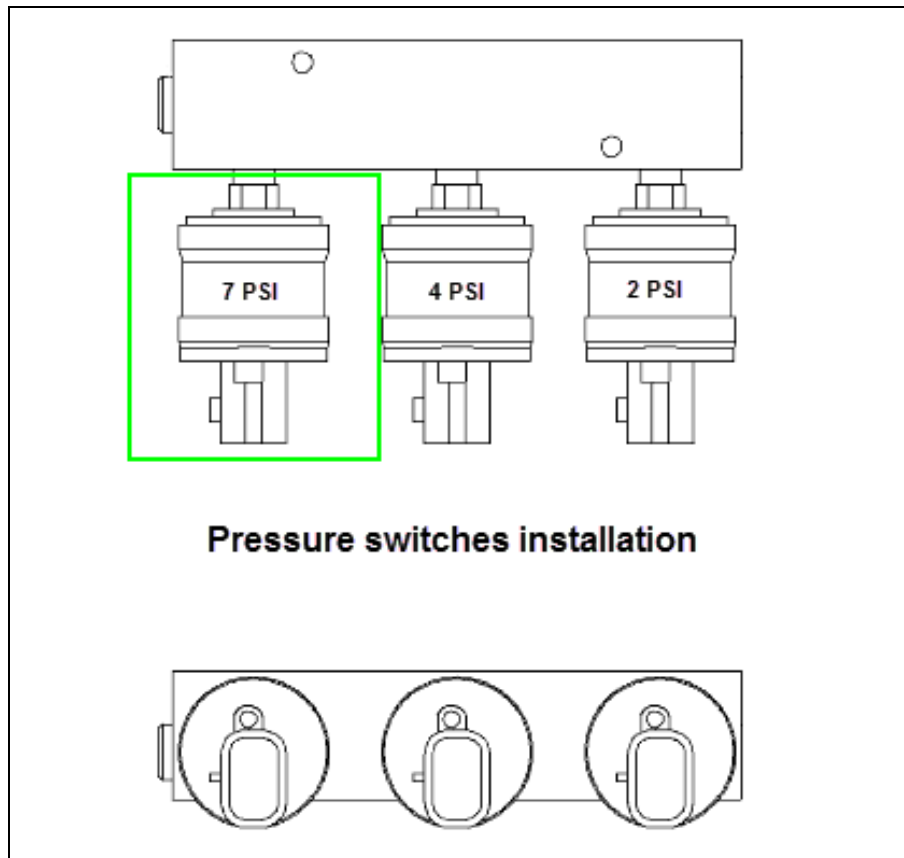

Fig.5 7 PSI pressure switch installed at junction block
5. Install a new 7 psi pressure valve (part# 562385) in the third port on the junction block using Loctite 567 thread sealant (#680098) or equivalent on the pressure switch threads. The pressure switch must be first hand tightened in the junction block then tightened another 1 to 1 ½ final turn using a 1/2" wrench (Fig.5).